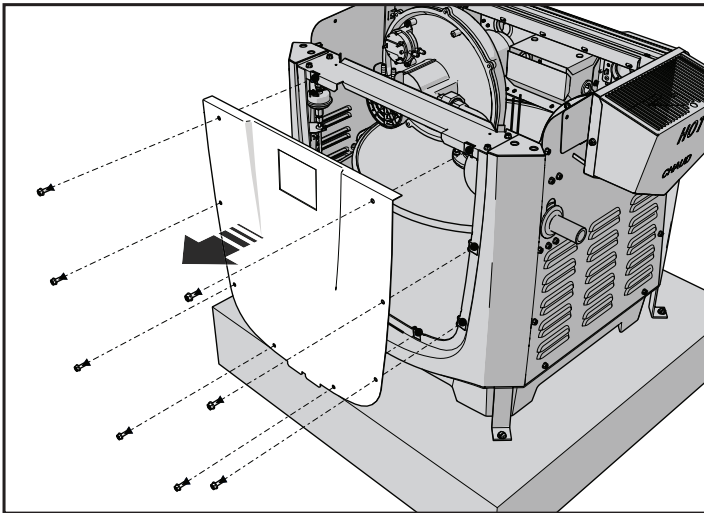

Figure 27. Remove Rear Panel
9. Remove eight (8) screws to take off heater rear panel (Figure 27).